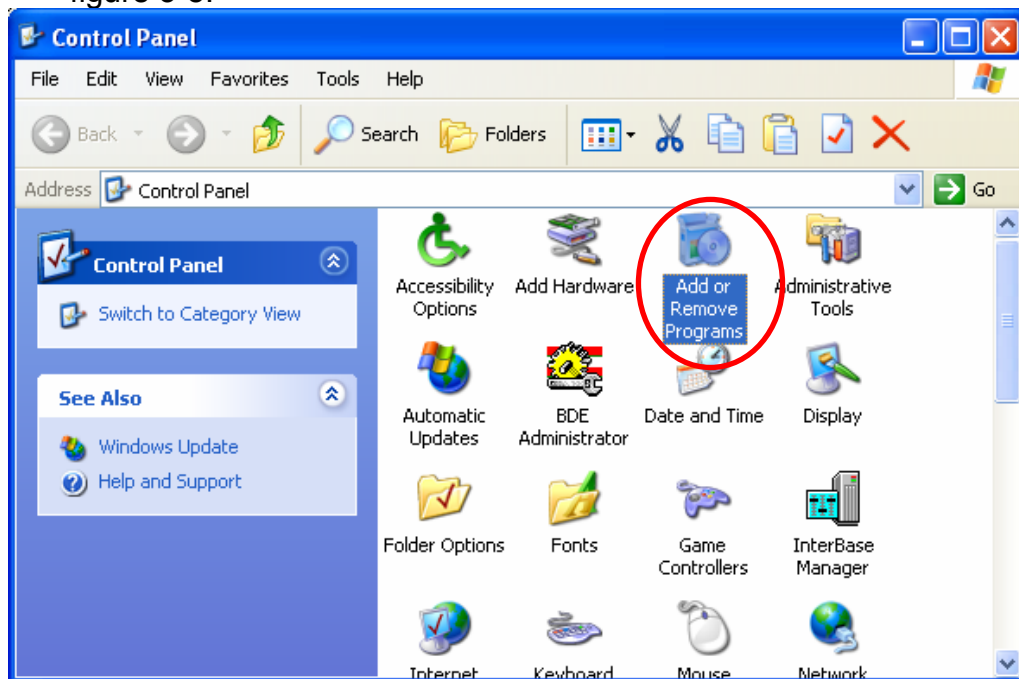

Figure 3-8: “Add/Remove Programs”
**Step 2:** Click the “Add or Remove Programs” button icon to open the dialog. See figure 3-8.